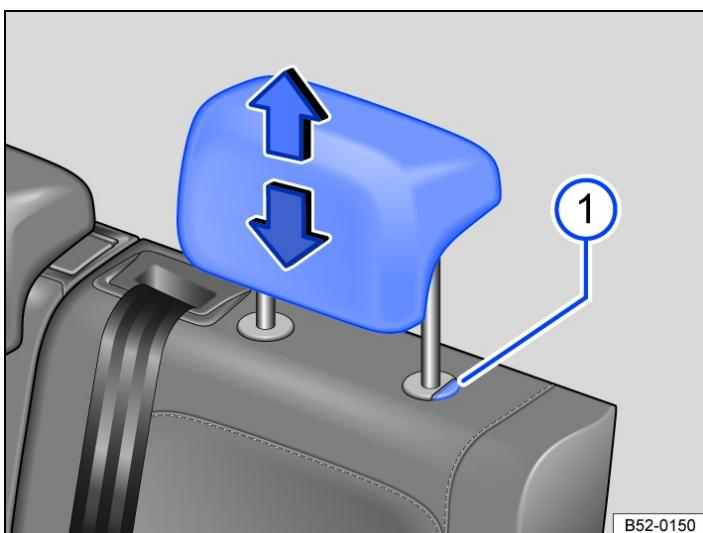

Fig. 2 Rear head restraint: adjusting.
- While pressing the button → *Fig. 2* 1 if necessary, push the head restraint up or down in the direction of the arrows.